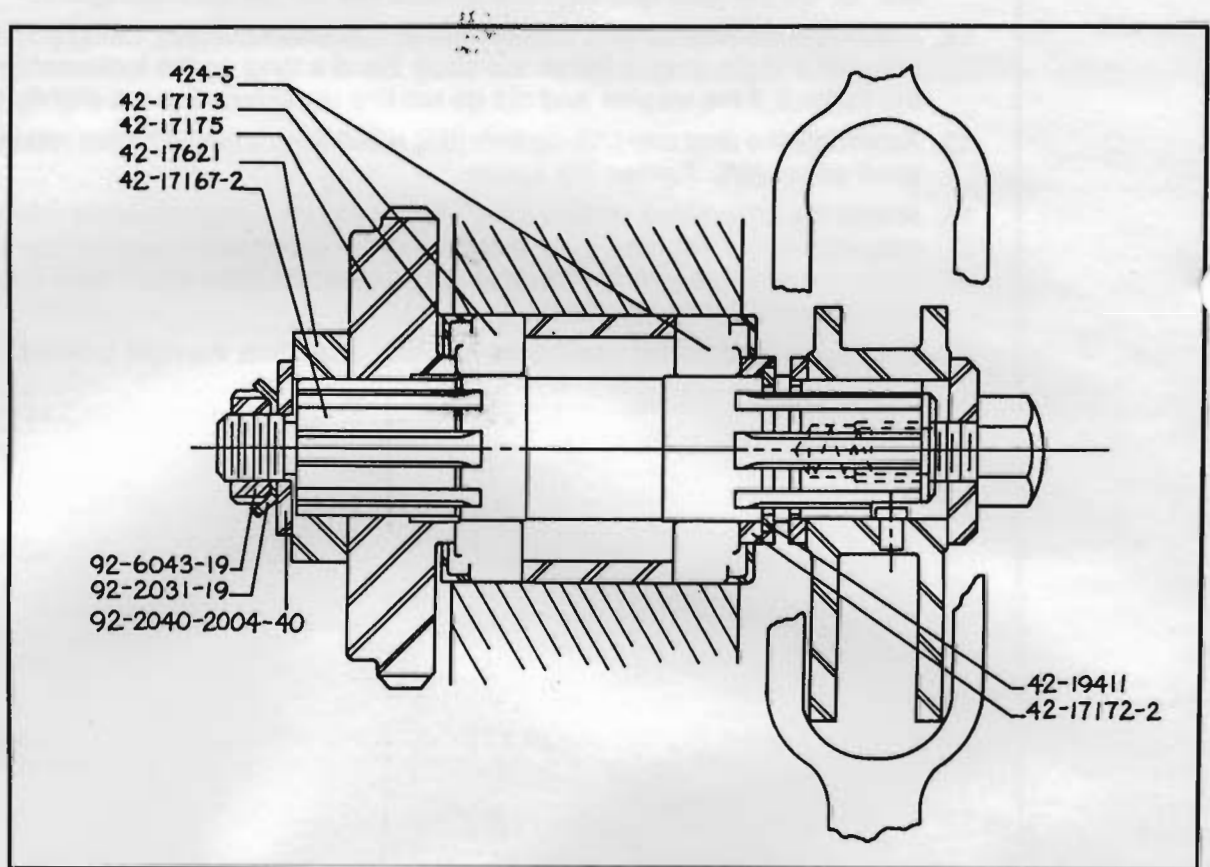

Figure 3-4
4. Check the ring (42-19411) and spacer (42-17172-2) (Figure 3-4) to see that they fit together. It may be necessary to polish or clean these parts.
5. Partially assemble the bearing inner race (73) onto the cam shaft (42-17167-2).